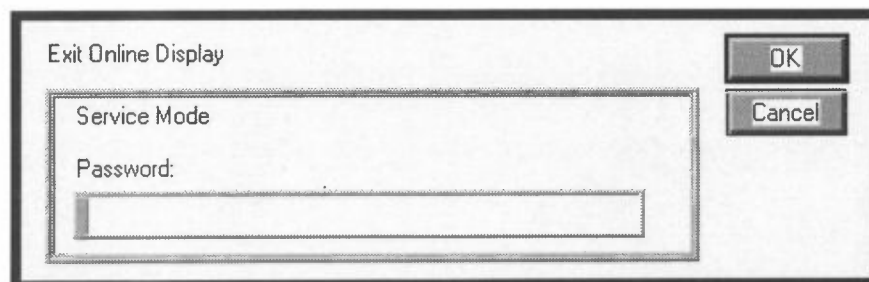

Fig. 1: The Exit Online Display dialog box.
1. Locate the HOST CONNECT group box. Choose command button HANGUP if you are connected to a host. Choose QUIT. The Exit Online Display dialog box appears, see fig. 1.